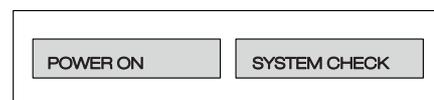
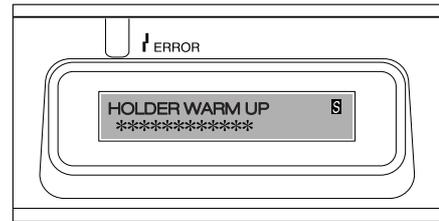

Figure 7
Figure 8
4. Turn the "POWER" switch on (See Figure 7).When the TSCD®-II is turned on, the LCD display illuminates, a self check starts and 3 beeps will sound when the instrument is operating properly. The fan starts. The wafer holder is warming up to 70°C to shorten the welding time (See Figure 8).